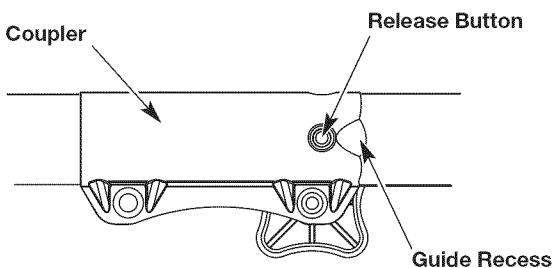

Fig. 2
**NOTE:** Aligning the release button with the guide recess will help installation (Fig. 2).
2. Press and hold the release button (Fig. 2).